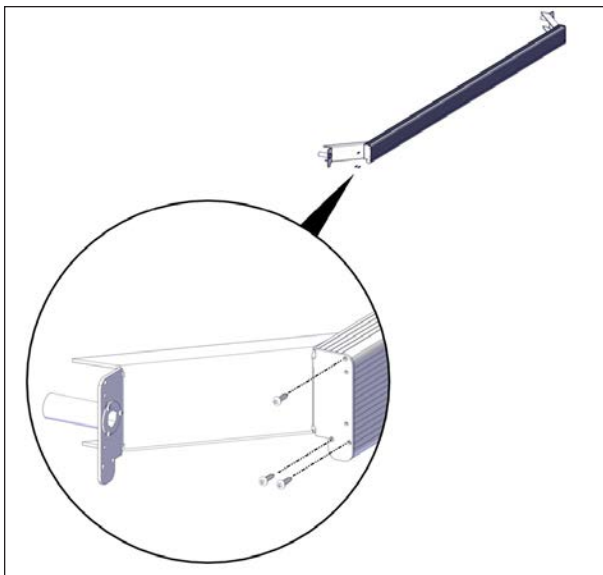
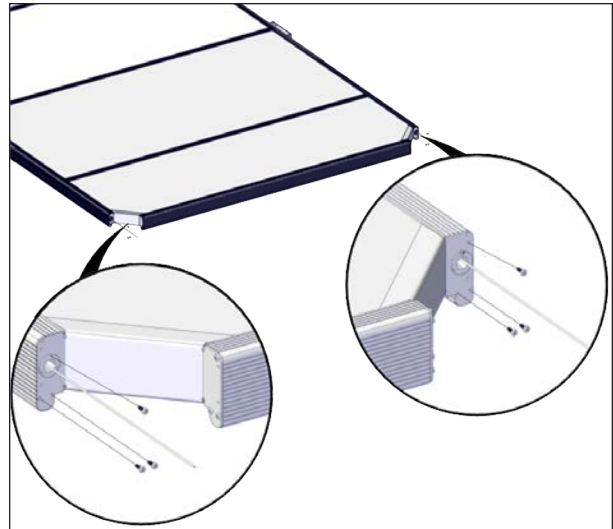

FIGURE 55: CORNER BRACKET SUPPORT INSTALLATION
FIGURE 56: END C-CHANNEL INSTALLATION
2. Install the left and right corner bracket supports on each end C-channel by using a #2 square screwdriver and the #8 X 1/2" screw, see Figure 55.
Figure 55 and Figure 56 display the proper orientation of the left and right brackets.
3. Take the assemblies made at the previous step (Figure 55) and slide them on the edge panels (Figure 56) located on each side of the cover. Make sure that the wire passes
4. Use a #2 square screwdriver to secure the corner bracket on the C-channel end by using the #8 X 1/2" screws (Figure 56).